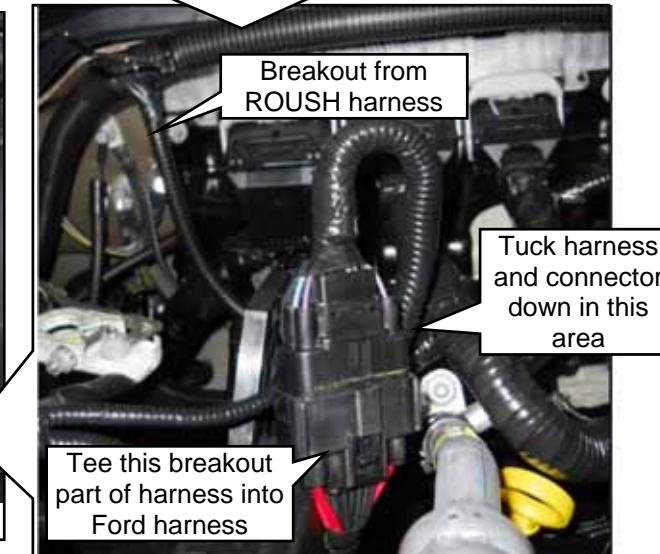

Figure 16.5
14. Insert and connect the in-line power pack connector (part of the underhood harness) into the Ford harness. **Figure 16.5.**